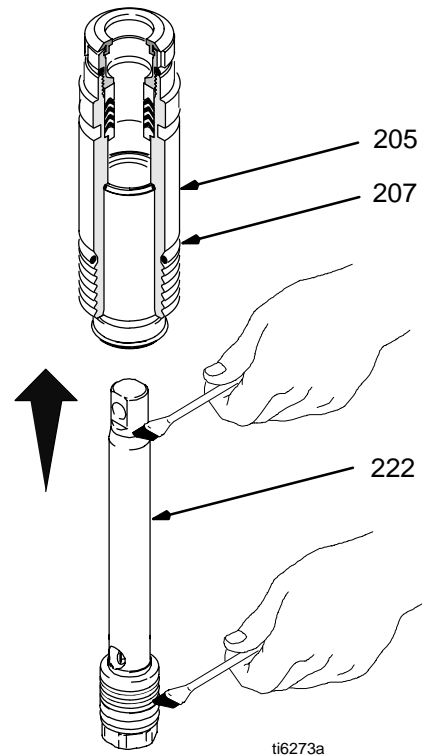

Fig. 15
Fig. 15. Grease top inch or two of piston rod (222) that goes through the sleeve/cylinder assembly throat packings (205). Grease piston packings at bottom of piston rod.